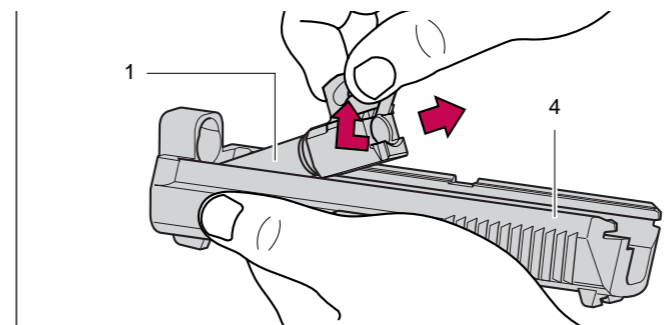

Fig. 12
8. Remove barrel **1** from slide **4** (Fig. 12).